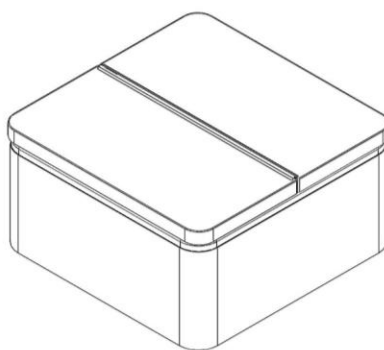

Figure 4
4. Lay the spa cover on top of the spa and center the cover evenly. See Fig 4.